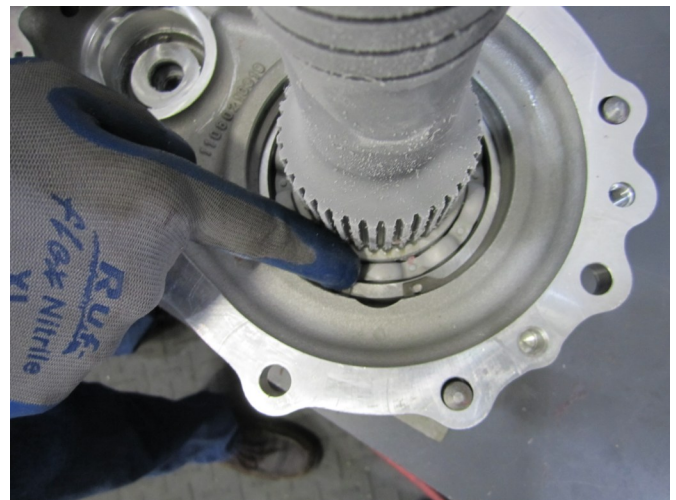

Figure 110
4.0.2 Install snap ring, ensuring that snap ring ends are positioned at relief channel as shown in figure 110.